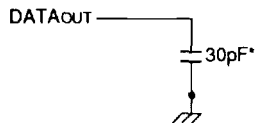

Figure 1. Output Load
Output Load	See Figures 1, 2 & 3
1. Transition is measured ±500mV from low or high impedance voltage with load (Figures 1, 2 and 3).
- Transition is measured ± 500 mV from low or high impedance voltage with load (Figures 1, 2 and 3).